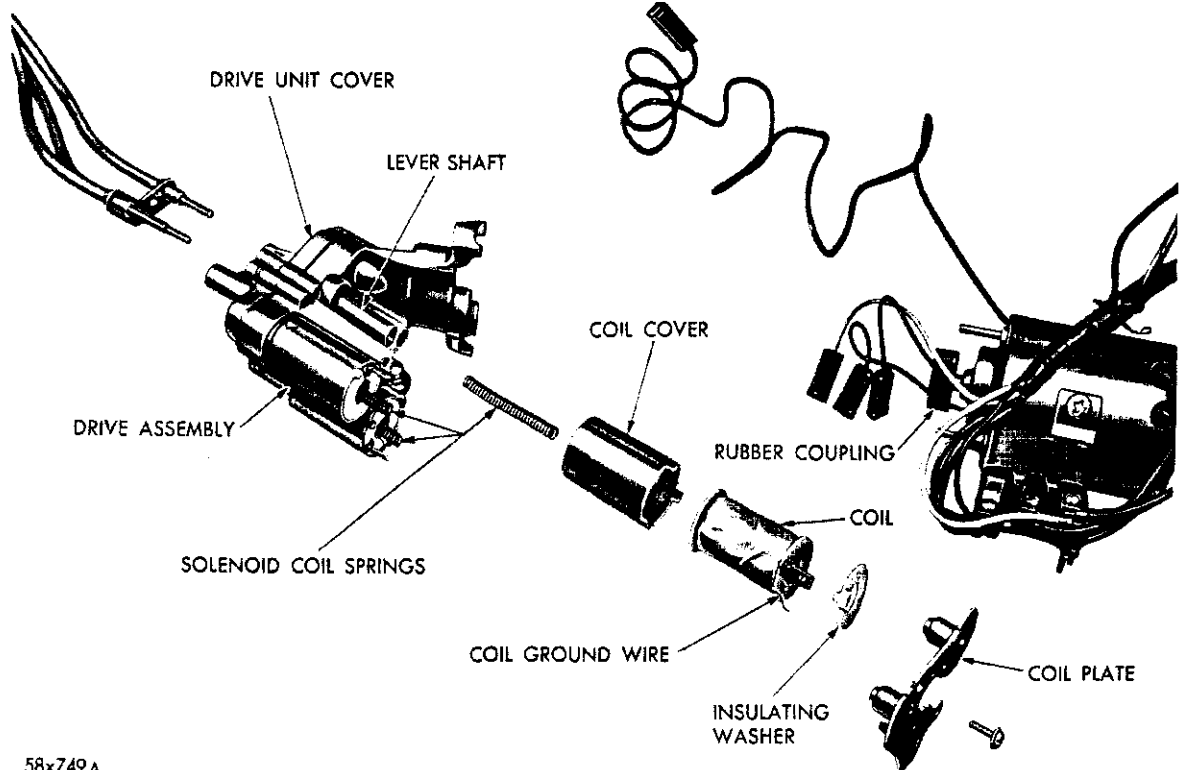

Fig. 103—Solenoid and Coil (Disassembled View)
- (1) Install the relay on the motor.
- (2) Install the rubber coupling on the motor shaft (Fig. 103).
- (3) Align the rubber coupling with the slot on the slave unit shaft.
- (4) Install the motor and reconnect the wires to the relay.